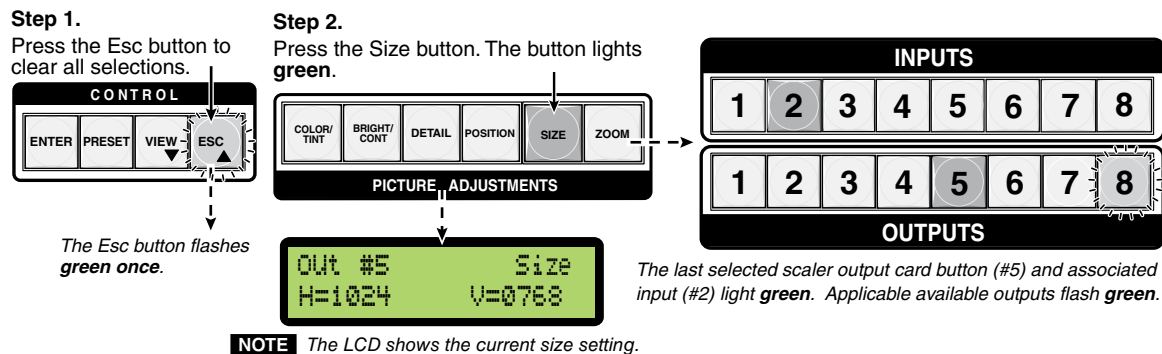

Figure 3-37 — Steps 1 and 2 for adjusting picture size
2. Press and release the Size adjustment button. The output buttons for scaler / scan converter cards (outputs 3 through 8) and any associated (tied) input buttons light solid green. Untied outputs flash green. The LCD panel shows the current size setting (see figure 3-37) for that output.